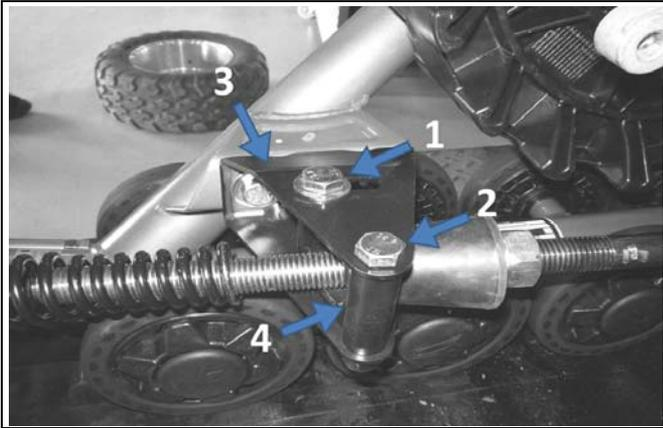

Figure 9
- Loosen anti-rotation bracket (3) bolts (1) and (2) to allow the anti-rotation retainer (4) to rotate on its axis. (See Figure 9).